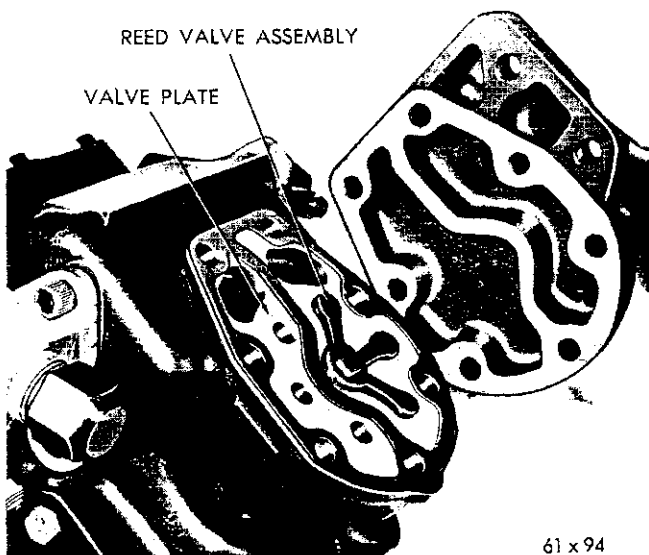

Fig. 44—Valve Plate—Installed Position
(1) The valve plate and the cylinder head must be assembled with the reed assembly, as shown in Figure 44.